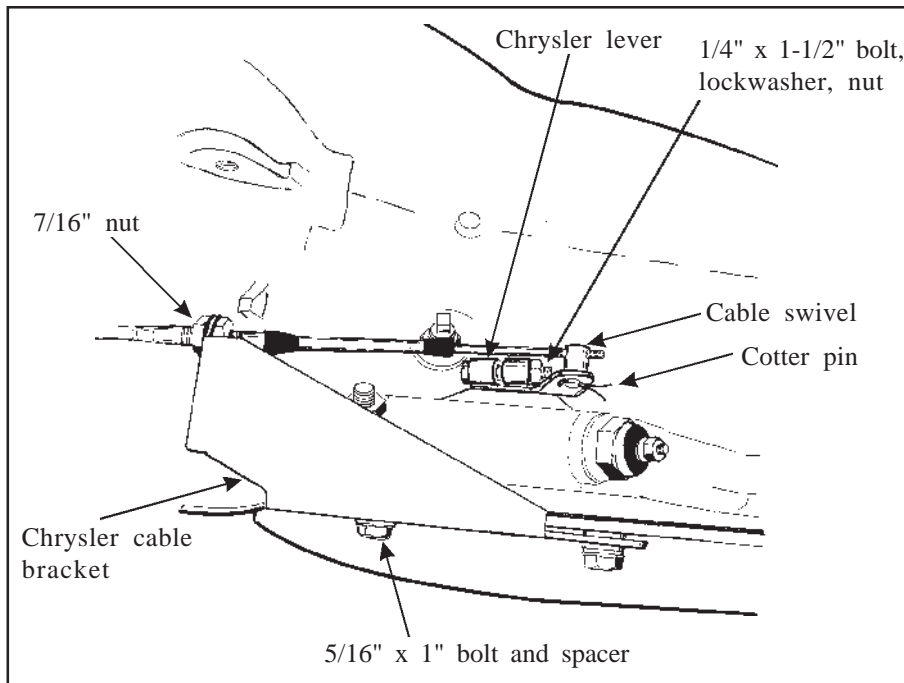

Figure 7
STEP 19. If you have not already done so, loosen pinch bolt on throttle lever on transmission. This is the lever on the small diameter shaft. Pry the lever off with a screwdriver and allow linkage to hang free. Remove and discard stock shift lever and stock shift linkage. Install B&M selector lever in position and tighten pinch bolt securely, see **figure 7**. Make sure lever is not pushed down so far as to touch the transmission case. This will cause the lever to bind on the case. The lever should travel smoothly from front to back with a positive click in each gear position. Install stock throttle lever in position on small diameter shaft as removed and tighten pinch bolt securely. Throttle lever must operate smoothly.
STEP 20. Remove the two transmission oil pan bolts directly below the shift lever. Install cable bracket in position, see **figure 7**. with two spacers between the pan and bracket. (If your transmission is equipped with a cast aluminum oil pan these spacers can be omitted.) Install the two 5/16-18 x 1.00" pan bolts supplied and tighten to 12-13ft-lb. Do not overtighten as this can damage pan gasket.